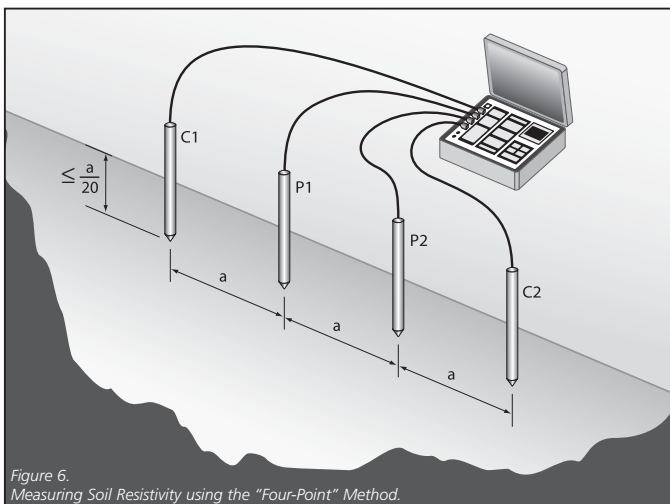

Figure 6.
2. An earth resistance tester is connected to these four stakes as shown in Figure 6.